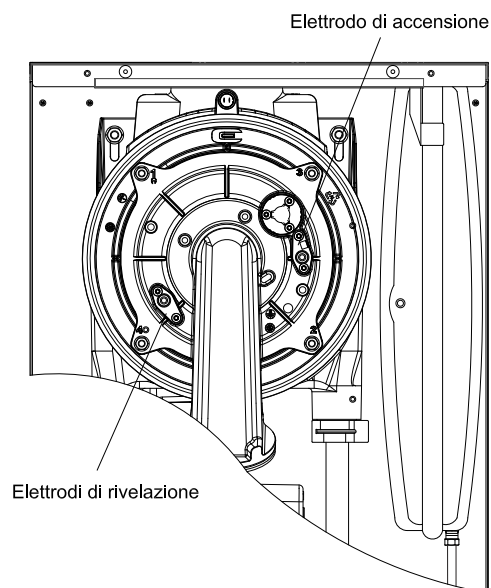

Fig. 30
7.2 - SOSTITUZIONE ELETTRIDI (Fig. 30)